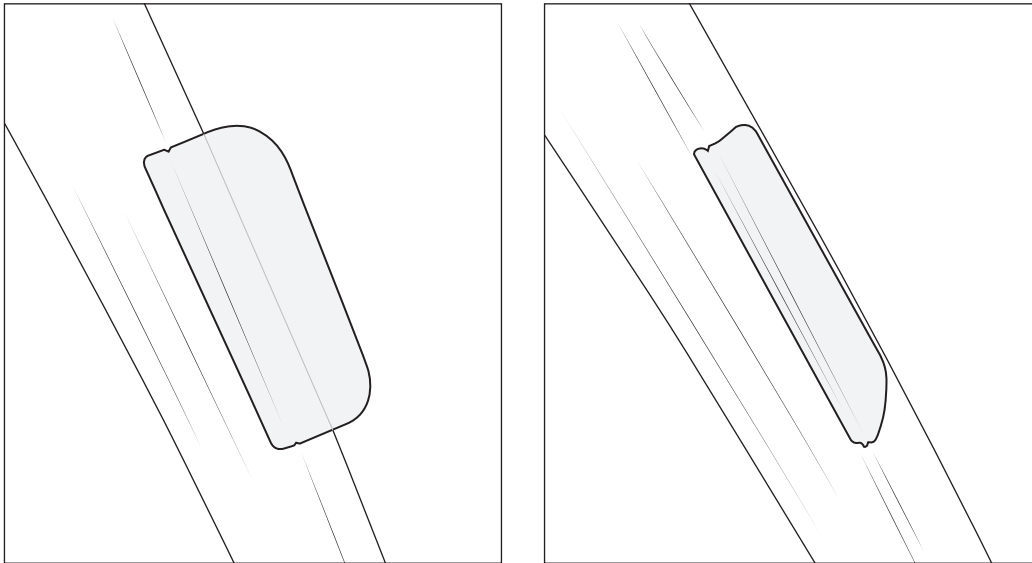

Figure 17
3. Close door and use tape or marker to mark windshield frame at bottom edge of door paint protection film. Open door and install matching piece of film to windshield frame using same procedure as door. (fig. 17).